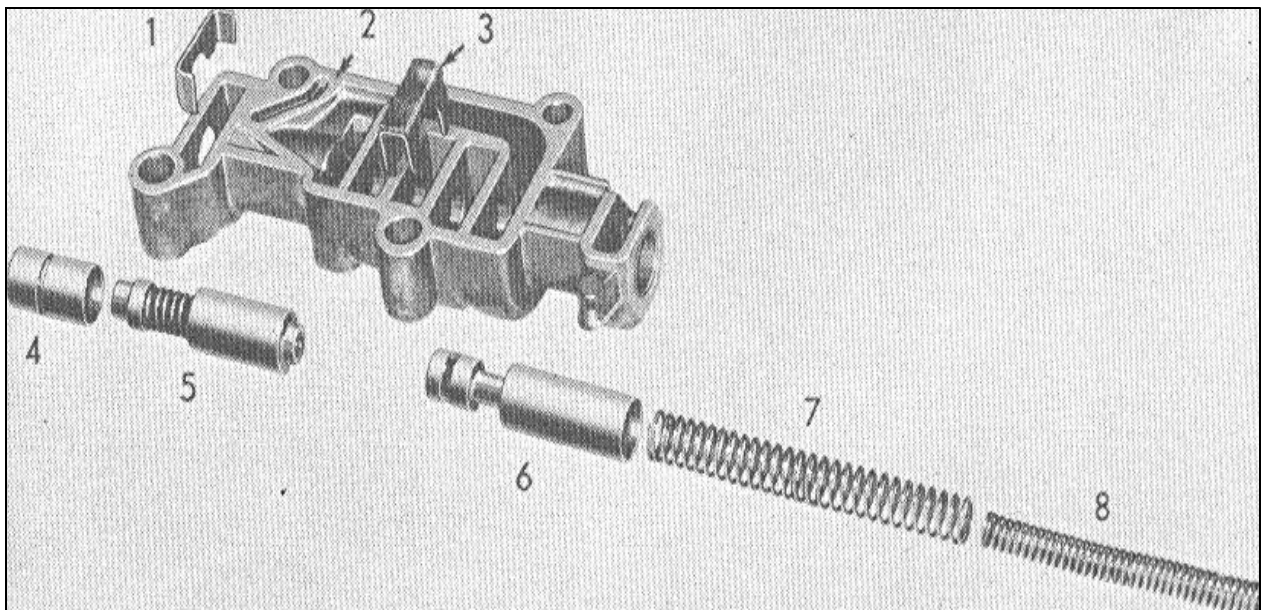

FIGURE 58
3. Remove the spring compressor and slip the spring retainer (9), Figure 58, out of the relief valve body.
4. Reinstall the spring compressor to permit removal of the retainer tool, then remove the compressor tool and remove the two relief valve springs (7) and (8), piston (6).
1. Install the front pump relief valve piston and spring assembly (5), Figure 58, and sleeve (4) into the relief valve body. The sleeve must be installed with counterbore end of sleeve toward front pump relief valve piston. Install the piston sleeve retainer with lips of retainer facing rear pump relief valve as shown in Figure 58. After valve, sleeve and retainer have been installed, check for free movement of the front pump relief valve assembly in valve body.